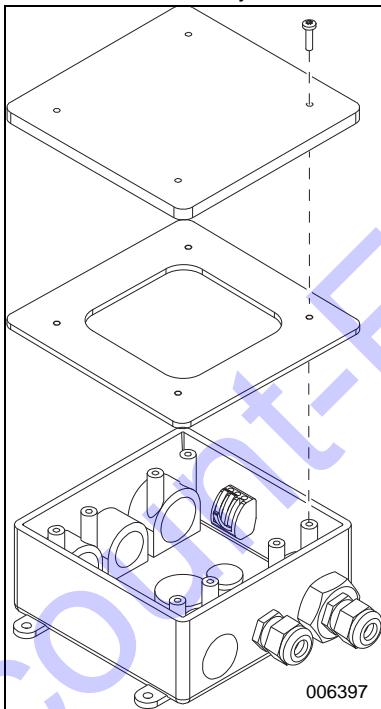

Figure 1. Junction Box Lid Removal
1. See **Figure 1**. Remove lid of junction box.